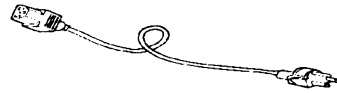

Figure 2-8 Computer Unit Power Cord
1. Locate the computer unit power cord; it has one of the part numbers listed in Figure 2-8.